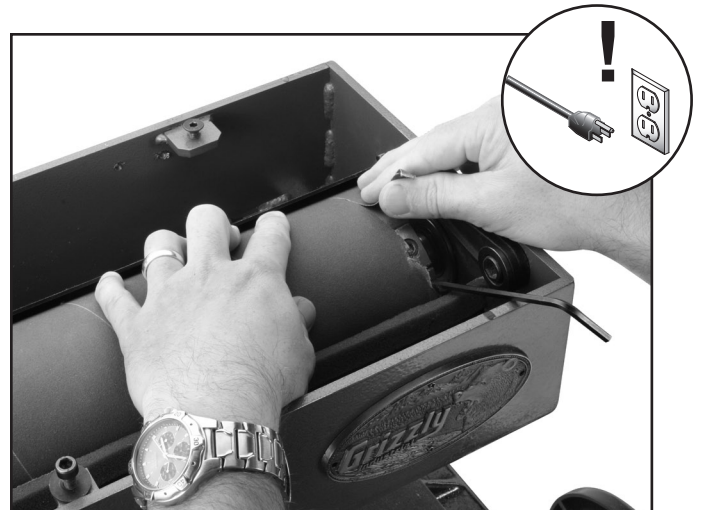

Figure 23. Wrapping sandpaper over tension wheel.
12. Firmly hold down the sandpaper with both hands, rotate the drum toward you, then wrap the end of the sandpaper over the top of the drum (**Figure 23**).